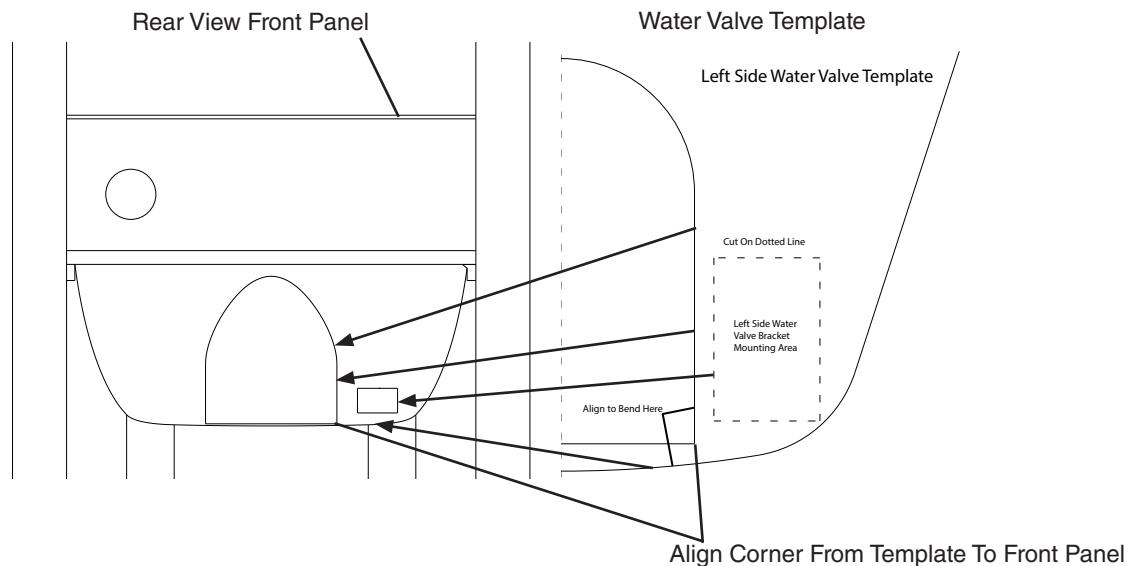

Fig. 3
- 6) Using the correct model template from step 5, place and align the cut out template on the rear of the dispenser front panel as shown in Fig. 3. Be sure to correctly align the template bottom right hand corner to the lines shown on the template for accurate water valve mounting alignment. Tape the template in place and score the cut out area with a utility knife or use a pink marker to mark the cut out area.
- 7) Once the template is secured and/or marked, using a jig saw or dremel tool, cutout the dispenser front panel water valve access area. See Fig. 3. Deburr the cutout edges. **WARNING! The cutout area must be sanded and cleared of any jagged edges to prevent bodily injury or fit issues.**